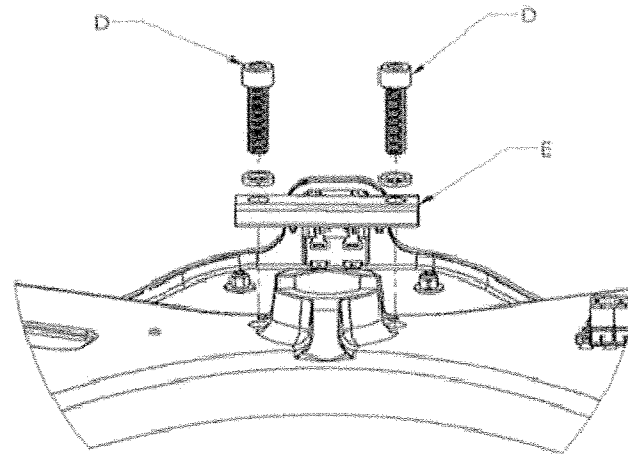

Figure 8: M8 Screws and Attachment Bar
11. On the base, remove the two (2) M8 screws and washers (D), and attachment bar (E) using the 6mm Allen wrench. Place them aside. Refer to Figure 8.